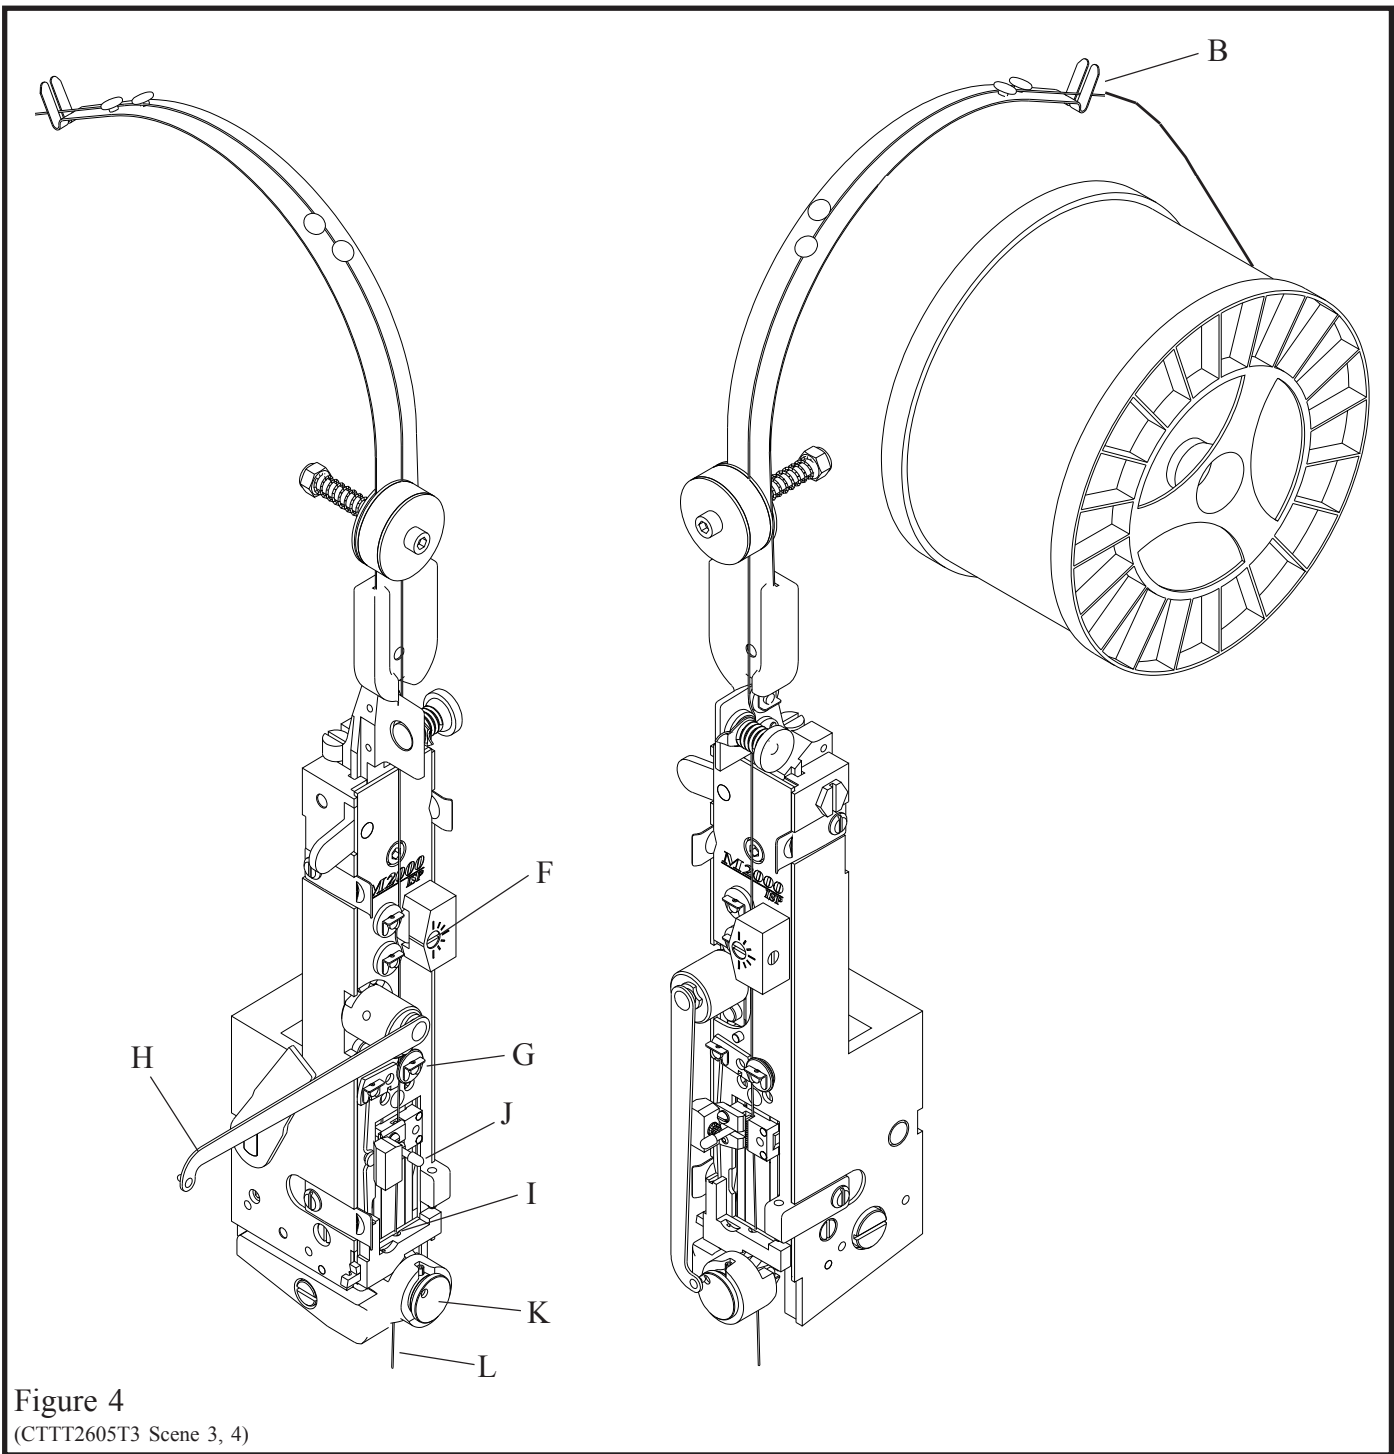

Figure 4
THREADING WIRE AND ADJUSTING WIRE STRAIGHTENERS (See fig. 4)
6. To check adjustment, hold open grip (Index J and pull about 1 1/2 feet of wire from below face plate. Cycle machine once by hand to cut wire. Cycle machine again by hand to observe wire straightness. The wire (Index L) should point straight down, prior to being cut, as shown in Figure 4 .
7. Adjust the upper wire straightener, beginning at position shown, (Index E, Figure 4) so that the wire points straight down. Adjust the lower wire straightener, beginning at the 3:00 o'clock position, (Index F, Figures 4) so that the wire (Index L, Figure 4) feeds straight down.